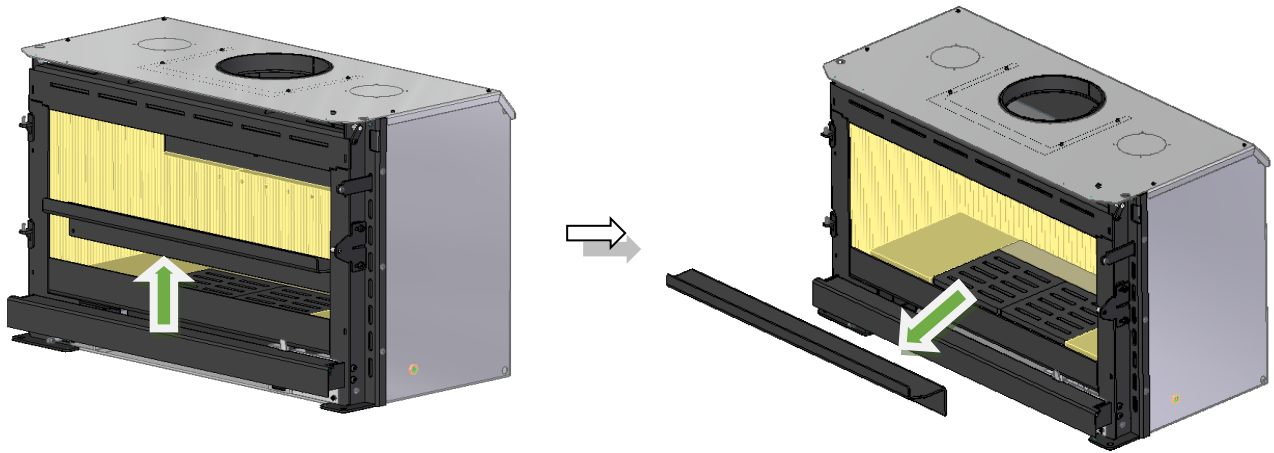

Figure 39 – Removing the ash deflector
1. Remove the ash deflector by shifting upwards, see Figure 39.
b. Then remove the ash deflector, ash pan and ash drawer, see Figure 39.